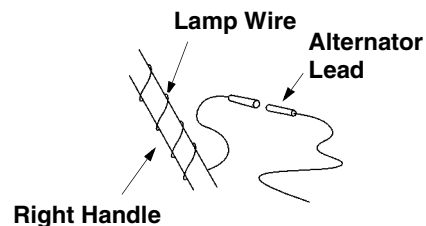

Figure 14
1. Wrap the wire from the lamp down the right handle until the wire can be plugged into the alternator lead wire under the fuel tank. See Figure 14. Be sure lamp wire does not interfere with the movement of any controls or cables.